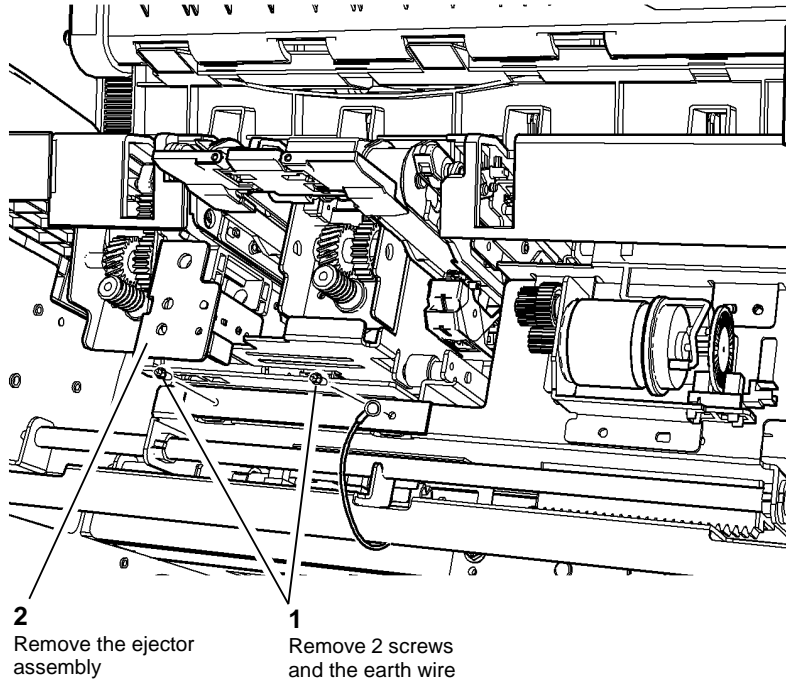

Figure 5 Ejector assembly removal
- Remove the ejector assembly, Figure 5.